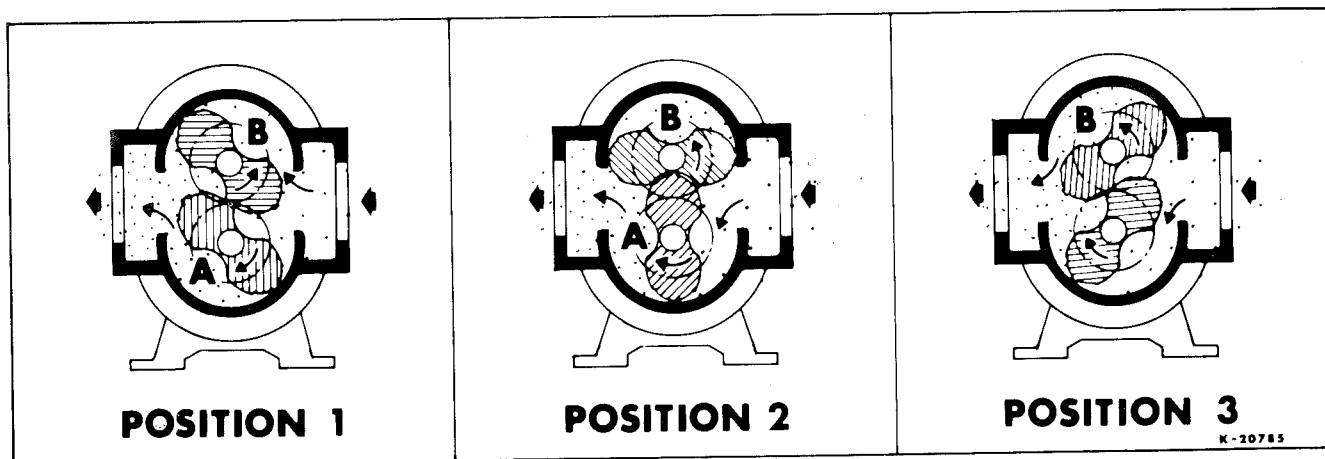

Figure 1 — Flow Through a Basic Type RAI Blower
Operation of the familiar basic rotary lobe blower is illustrated in FIGURE 1, where air flow is right to left from inlet to discharge with the bottom impeller rotating clockwise. In Position 1 it is delivering a known volume (A) to the discharge, while space (B) between the upper impeller and cylinder wall is being filled. Counterclockwise rotation of this impeller then traps equal volume (B) in Position 2, and further rotation delivers it to the discharge in Position 3. At the same time, another similar volume is forming under the lower impeller, and will be discharged when rotation reaches Position 1 again.